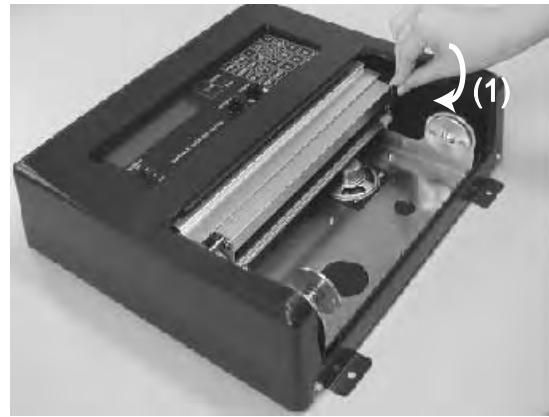

Figure 1
1. Open the paper cutter by loosening its two screws. Detach it together with the paper compartment cover. Put the paper feed lever in the downward position. See Figure 1.